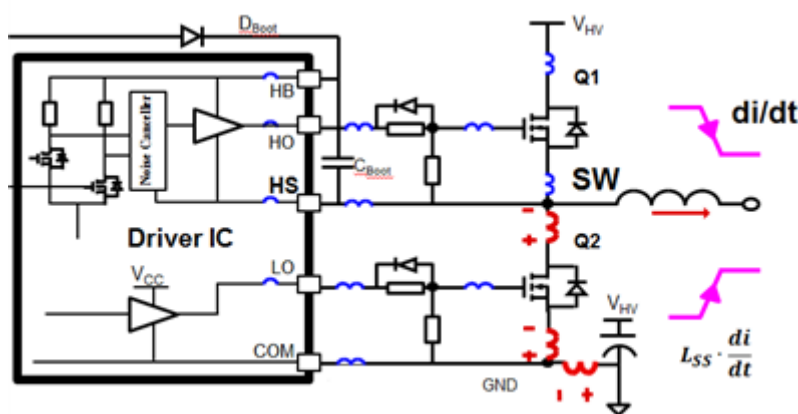

Figure 1. Negative Voltage on HS: Di/dt Effect on a Gate Driver
Of all the issues resulting from parasitic inductances, one of the main problems for motor control is a tendency for the switch node (HS) to undershoot the ground following switching transitions. Figure 1 shows the internal parasitic inductances and board-layout inductances that exist in any design.
Figure 1 also shows that during the high-side turn-off, with continuous current flowing in the inductor, as the high-side current falls the low-side current rises. In most cases, this occurs in the body diode for a short period of time. The current in the parasitic inductance generates a negative voltage relative to the MOSFET channel and body diode. The result is a negative voltage spike on HS, which can cause gate driver malfunction, D_{BOOT} diode overcurrent or V_{HB-HS} overvoltage.